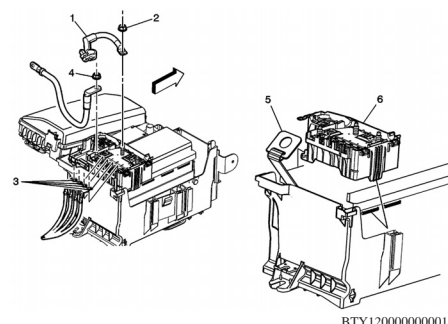

Fig. 2 Battery positive cable removal
5. Remove battery positive fuse block cable (1), **Fig. 2**.
6. Remove battery positive cable at fuse block (2), **Fig. 2**.
7. Remove battery retainer (5), **Fig. 2**.
8. Remove fuse block (6), **Fig. 2**.
3. Install battery positive cable at fuse block (2), **Fig. 2**.
4. Install battery positive fuse block cable (1), **Fig. 2**. **Torque** terminal nut to 35 inch lbs.